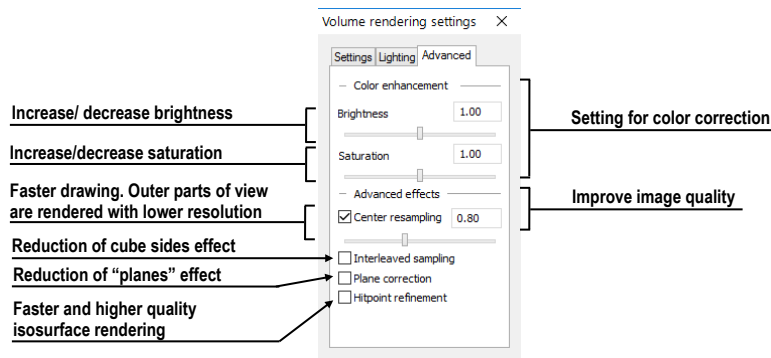

Figure 328 – Volume rendering settings, the third tab
- Settings for color corrections and advanced ray casting settings on the third tab (see Figure 328)